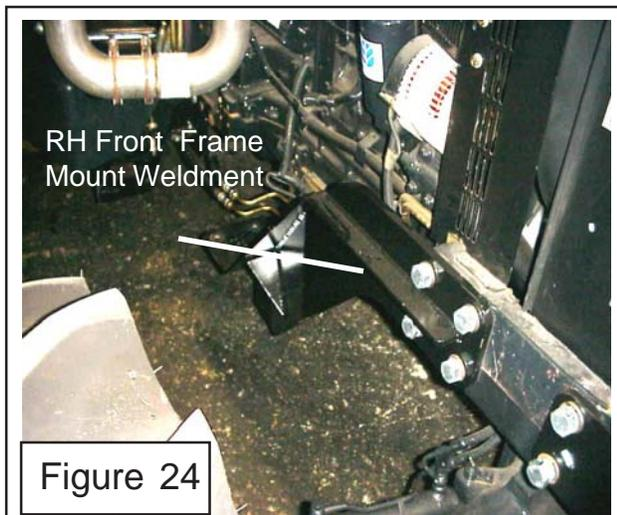

Figure 24
**4. Install Front Frame Mount Rails.** The Front Frame mount rails will consist of a RH & LH (See Figure 19, 20, 24 & 25) These will only fit one way as they have a gusset reinforcement on one side that will be showing to the outside when installed. These can be lifted by the technician installing them. The LH and RH will install the same way, Using 4 bolts each that screw into tractor casting on the side of the tractor (See Figure 24). Make certain that all 3/4" and 20 mm bolts have hardened flatwashers on them.